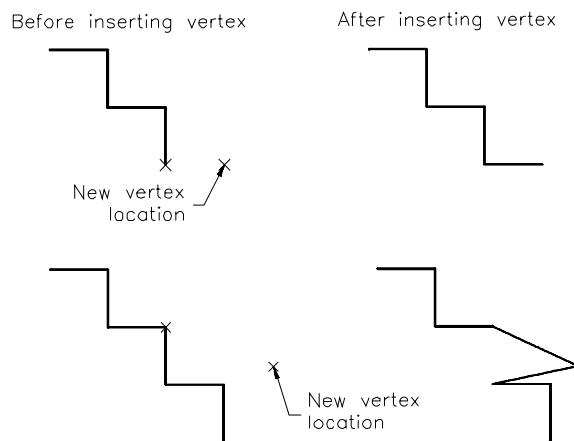

Figure 18-15 Using the **Insert** option to define new vertex points
Insert option. The **Insert** option allows you to define a new vertex and add it to the polyline (Figure 18-15). You can invoke this option by entering I for Insert. You should invoke this option only after you have moved the marker (X) to the vertex after which the new vertex is to be added. The new vertex is inserted immediately after the vertex with the X mark. After you have invoked the **PEDIT** command, the prompt sequence for using the **Insert** option is as follows.